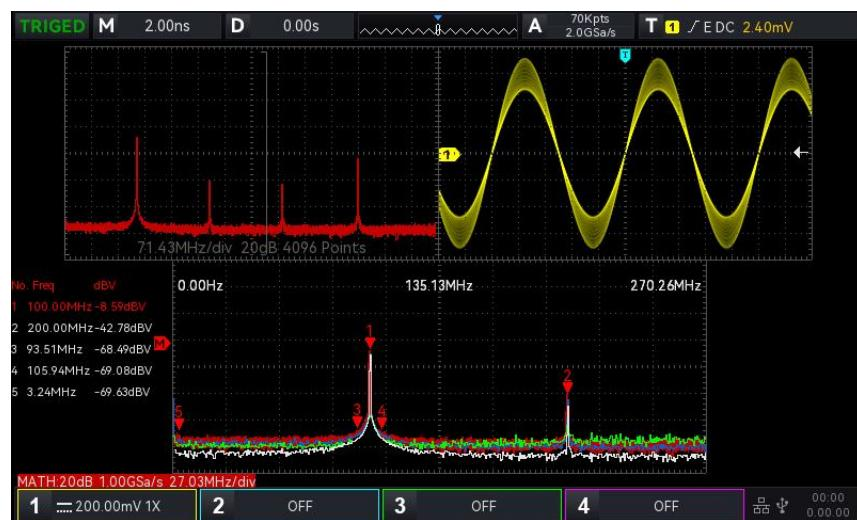

Figure 17-1
- a. Spilt screen: Display the source waveform and the FFT spectrum waveform in split screen, and extend to display the spectrum, as shown in Figure 17-1.